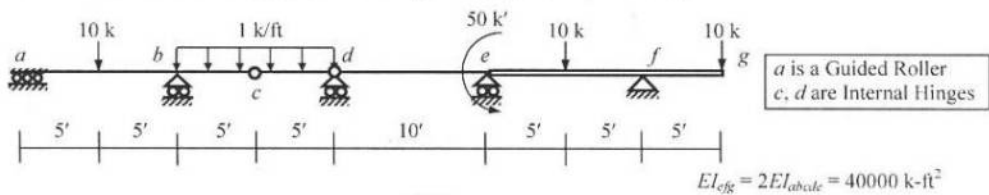

Fig. 8
8. Use Flexibility Method (considering flexural deformations only) to draw the bending moment diagram of the beam loaded as shown in Fig. 8 Given: $EI_{efg} = 2EI_{abcde} = 40 \times 10^3 \text{ k-ft}^2$.
9. Use the Moment Distribution Method to calculate the joint moments and draw the bending moment diagram of beam $abcdefg$ loaded as shown in Fig. 8.